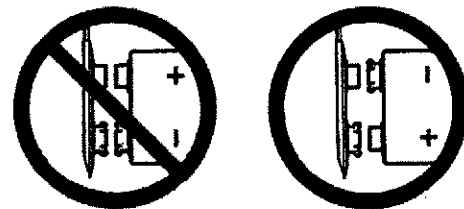

Figure 11 Smartap® Battery Connections
24. Disconnect battery. The battery connection is a snap type connector (Figure 11).
27. **CAUTION:** Verify battery connector alignment before making connection (Figure 11).
Connect battery (Item 2) by pressing clip onto battery terminals (Page 13, Figure 11).